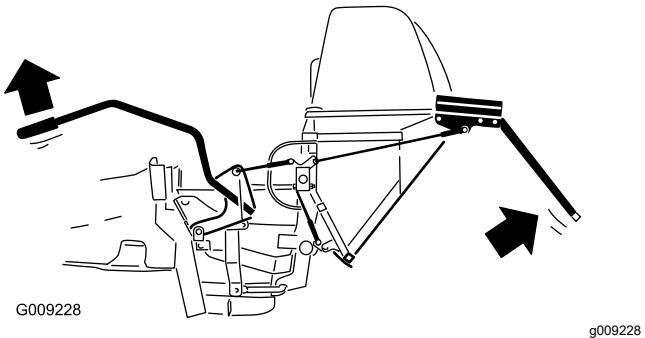

Figure 47
4. Push the handle down to close the door (Figure 47).